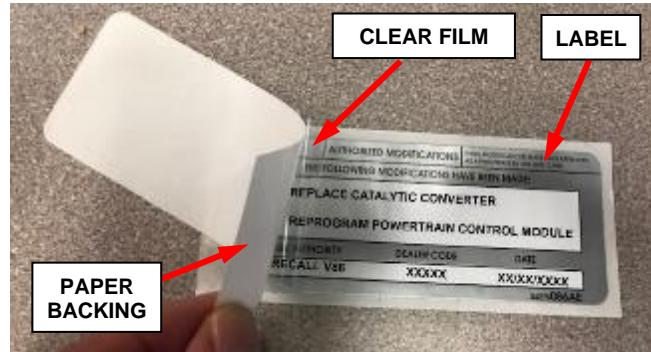

Figure 69 – Apply Clear Film
2. Remove the paper backing from the clear film on the front of the authorized modifications label then carefully apply the clear film over the front of the authorized modifications label (Figure 69).